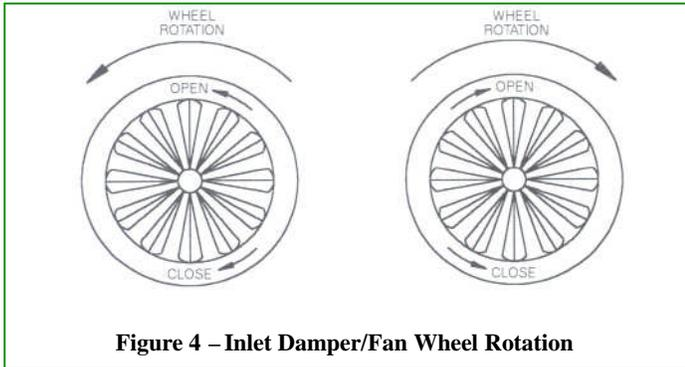

Figure 4 – Inlet Damper/Fan Wheel Rotation
**Verify that dampers are installed correctly and operating properly.** If the damper linkage is out of adjustment, the damper may not be opening completely, thereby reducing performance. If inlet dampers are used, make sure they are installed so that the air is pre-spun in the same direction as wheel rotation. See Figure 4. If the air distribution system employs balancing dampers, make sure they are set properly.